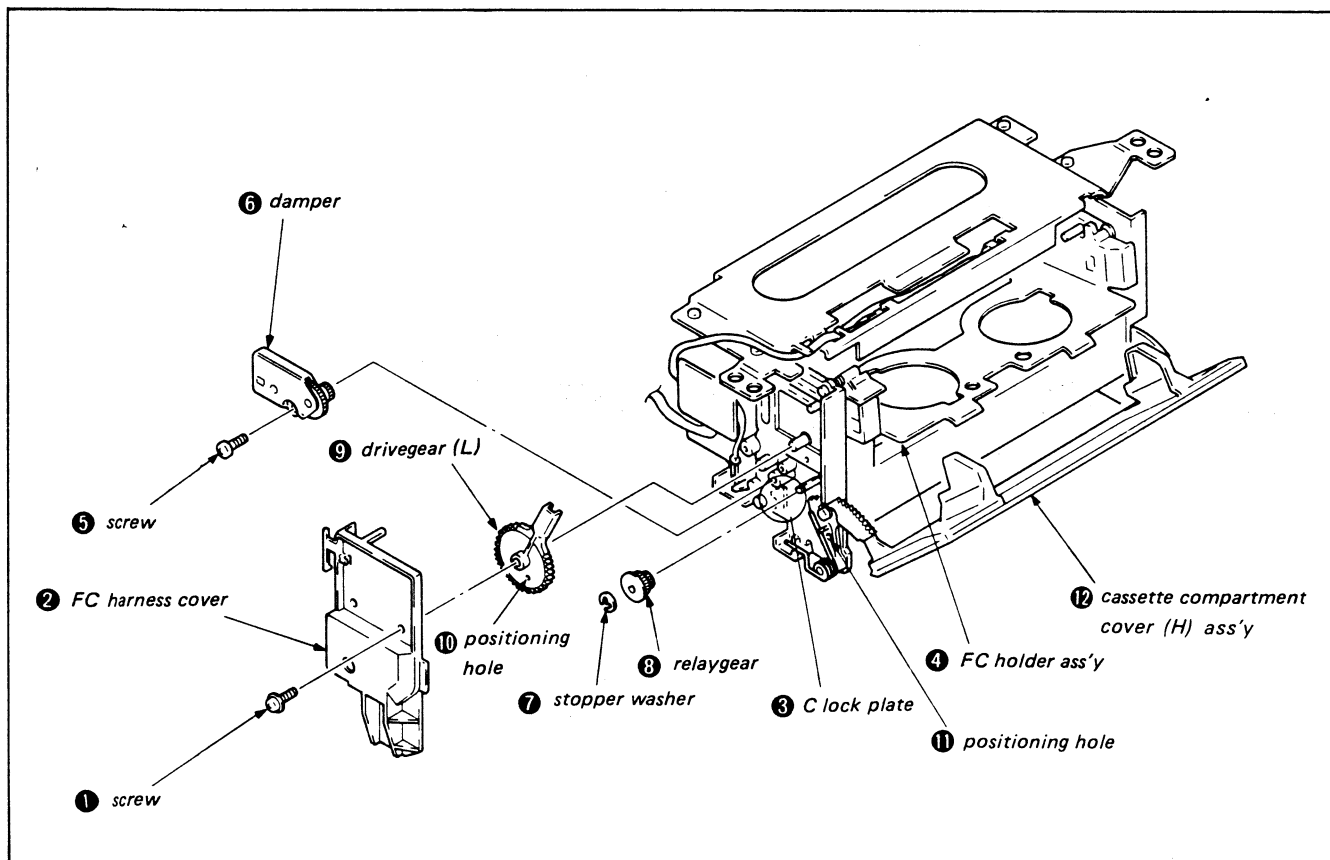

Fig. 3-58.
- 3) Release C lock plate ③ and raise FC holder assembly ④.
- 4) Remove screw ⑤ and damper ⑥.
- 5) Remove stopper washer ⑦ and relay gear ⑧.
- 6) Replace drive gear (L) ⑨.
- 7) Insert thin rods into drive gear (L) ⑨ positioning hole ⑩ and door gear L positioning hole ⑪ and confirm that they go through.
- 8) Mount the relay gear ⑧ and stopper washer ⑦.
- 9) Close cassette compartment cover (H) assembly ⑫ and confirm that the FC holder assembly ④ locks.
- 10) Confirm that the cassette compartment cover (H) assembly ⑫ and FC side plate L ⑬ are parallel.
- 11) Mount damper ⑥ and tighten screw ⑤.
- 12) Mount FC harness cover ② and tighten screw ①.
- 13) Release C lock plate ③ and confirm that the FC holder assembly ④ comes up and the cassette compartment cover (H) assembly ⑫ opens. Also, confirm that the FC holder assembly ④ goes down and locks when the cassette compartment cover (H) assembly ⑫ is closed. (Fig. 3-58)